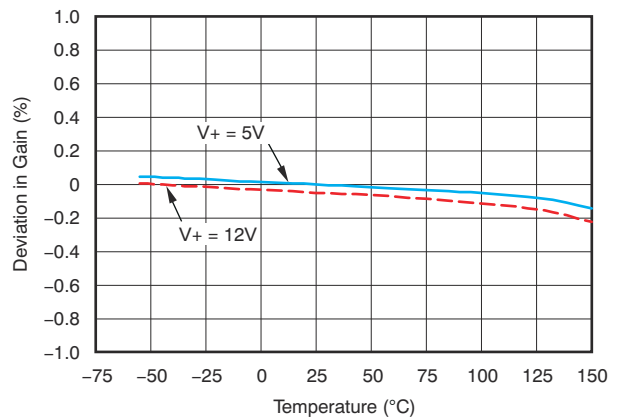

图 6-12. Deviation in Gain vs Temperature
- (6) See typical characteristic graph 图 6-12.